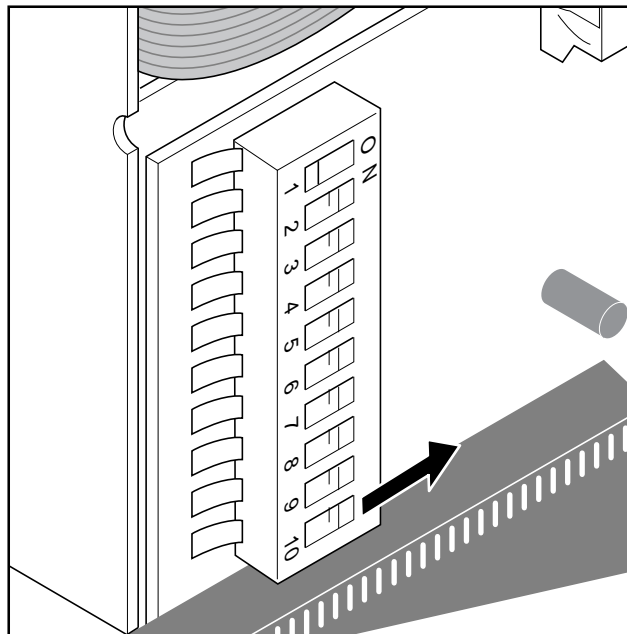

Fig. 5: Activate memory block 1
2. For block 1 set DIL-switch 10 into the right-hand ON position, for block 0 into the left-hand position (OFF) (fig. 5).